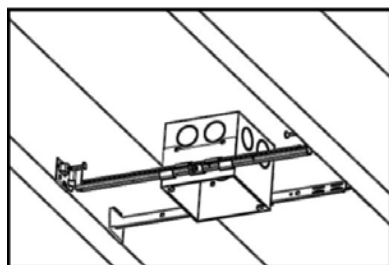
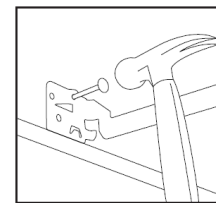

Figure 3
Figure 4
Step 1. Release bar hangers by loosening locking screws on each side (Fig. 5). Extend bar hangers to fit between joists. Bar hanger foot is contoured to easily align with bottom of joist (Fig. 3). Position fixture by hammering Real-Nails® into joists (Fig. 4).